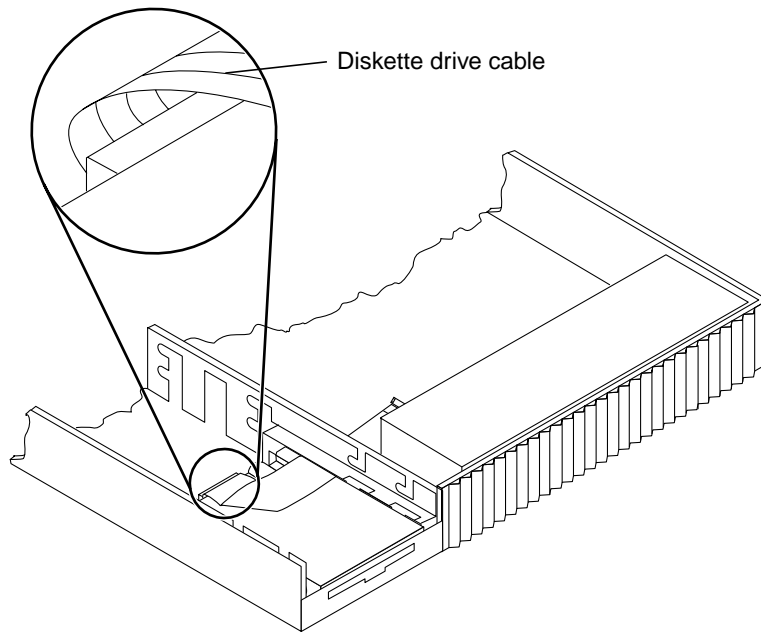

FIGURE 8-43 Diskette Drive Cable Location
5. Locate the diskette drive cable (FIGURE 8-43).